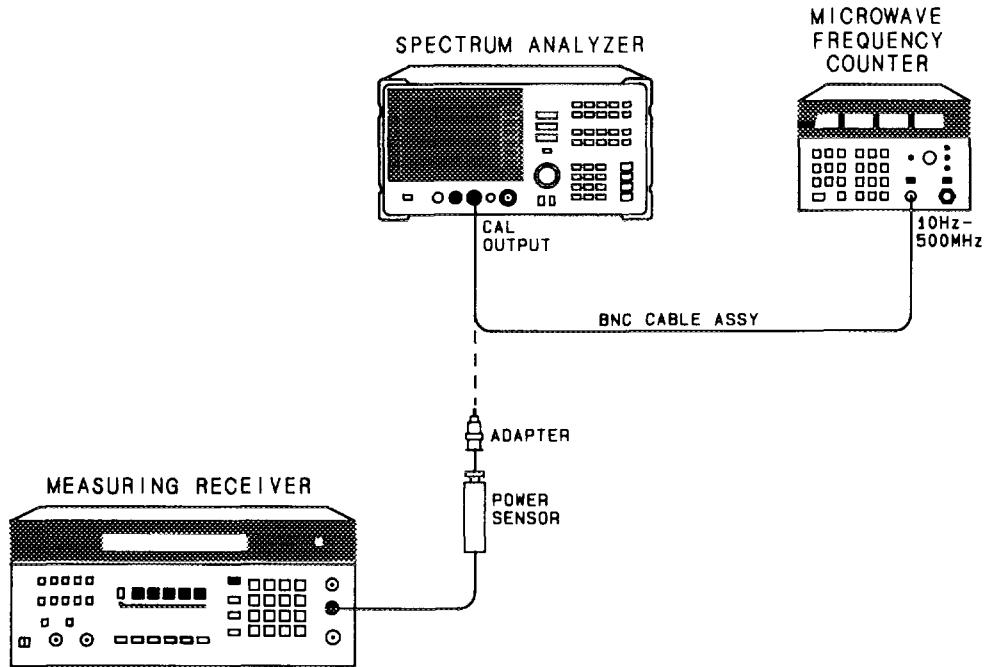

Figure 3-2. Calibrator Accuracy Test Setup
1. Connect the equipment as shown in Figure 3-2. The HP 5343A 10 Hz–500 MHz input should be connected to the CAL OUTPUT of the HP 8562A/B.